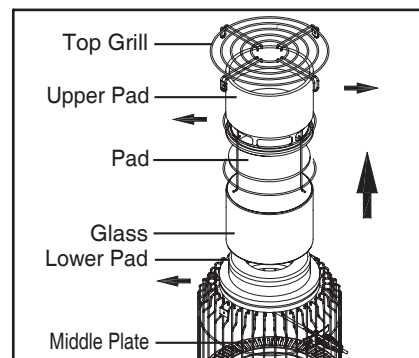

Fig. 3
- Remove Top Grill from Heater and Upper pad (Fig 3)
remove Lower pad on Middle plate (Fig 3)